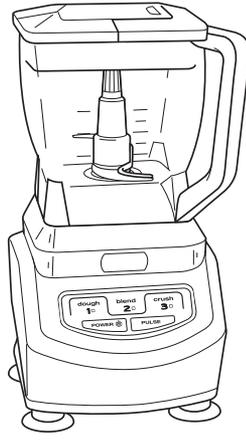

Fig. 11
- 1 Place the motor base on a clean, dry, level surface such as a counter or table top. **(Fig. 11)**
- 4 Add the ingredients and secure the bowl lid onto the bowl. **(Fig. 11)**